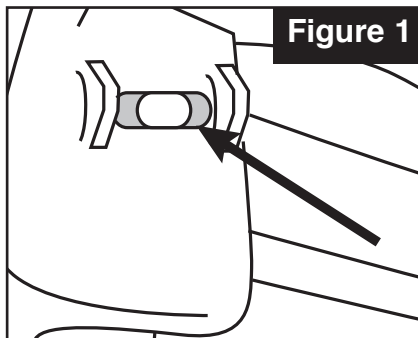

Figure 1
4. Use 3/8" rotary file **SPC #85127** or similar to elongate slots on sub-frame as needed up to the edge of the stamped upsets (**Figure 1**).